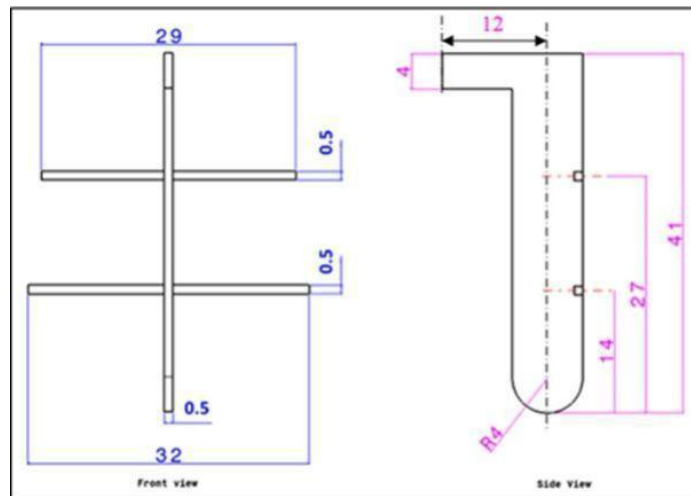

Figure B-17: Roll Cage Template Drawing (All Dimensions are in inches)
1. Lateral UST - The two LFS members shall be joined by the Under Seat Members. The UST shall pass below the driver within the fore-aft envelope of the part of the template as noted in Figure B-17 that intersects the seat bottom; or
2. Longitudinal UST - The ALC and FLC members shall be joined longitudinally by the Under Seat Member. The forward end of the UST may also terminate at an additional cross member made from a primary material that joins the LFS members between Point A and Point F. The UST must pass within the fore-aft envelope of the template as noted in Figure B-17 intersects the seat bottom and the lateral centreline of the seat.